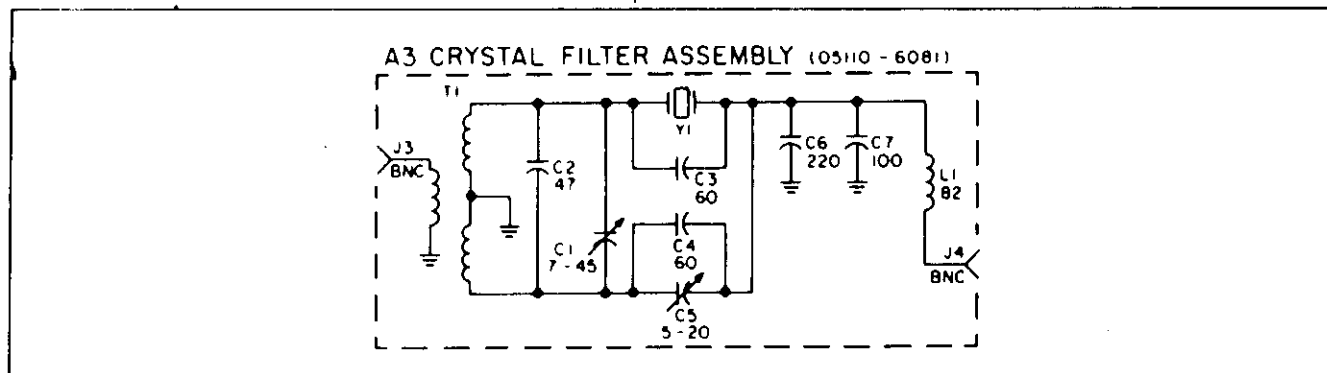

Figure 8-1. Crystal Filter A3
1. Crystal Filter Assembly A3 (HP Part No. 05110-6081) was installed. See schematic diagram, Figure 8-1 and parts list, Table 8-1.